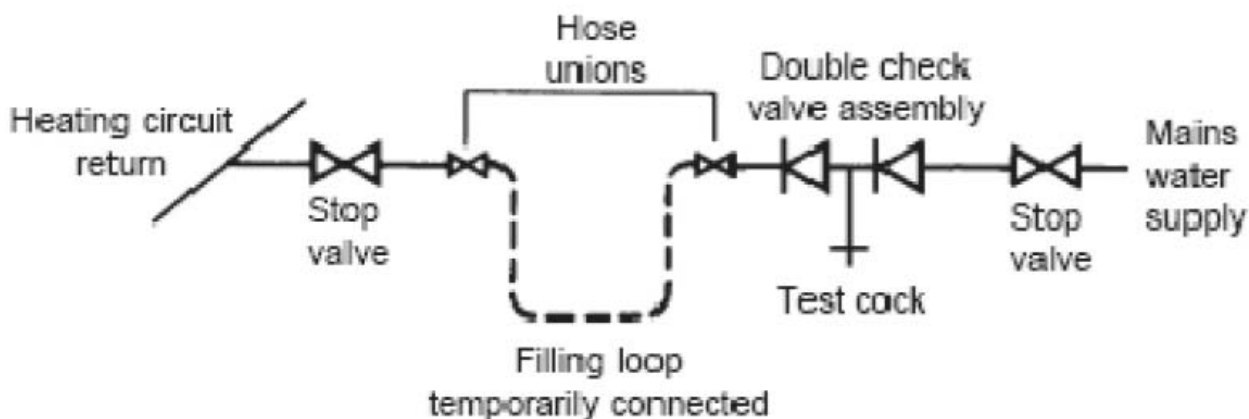

Fig. 5
- d) A sealed system must only be filled by a competent person using one of the approved methods shown in fig. 5. The system design should incorporate the connections appropriate to one of